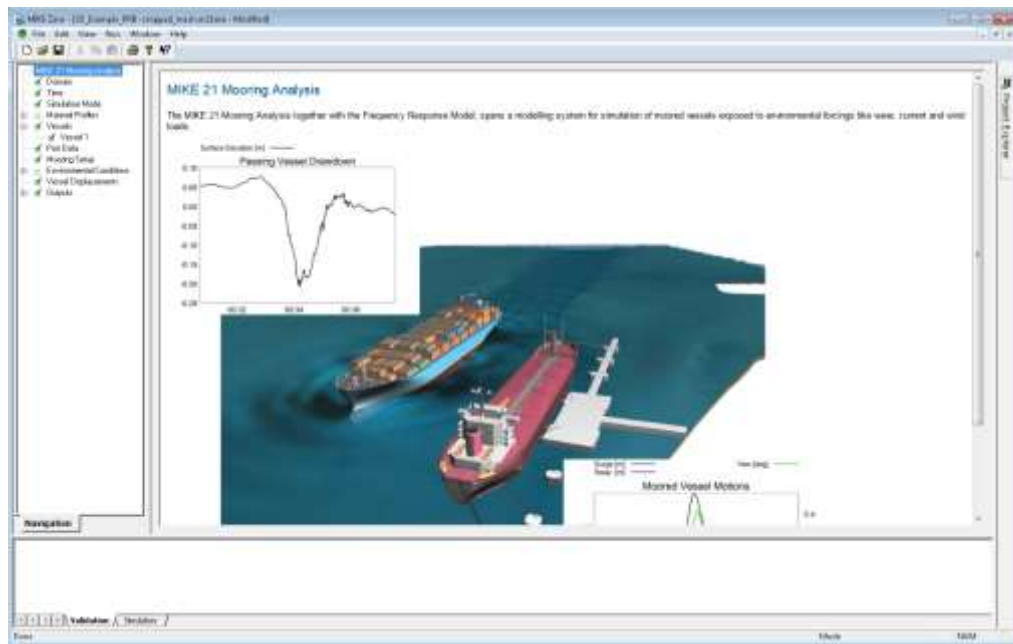

Figure 3-14 M21 MA main page
1. Open a new instance of the (.m21ma) editor as shown in Figure 2-8, by clicking OK. The M21 MA main page (Figure 3-14) should appear on the screen.